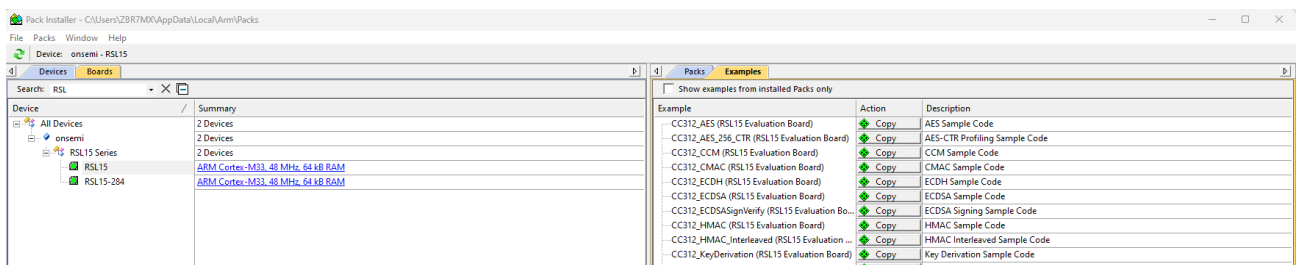

Figure 25. Pack Manager Perspective: Examples Tab
- Choose the example project called *blinky*, and click the **Copy** button to import it into your workspace (see the "Pack Manager Perspective: Examples Tab" figure (Figure 25)). Choose a destination folder for a copy of the sample code. We recommend leaving the **Launch μ Vision** checkbox checked.